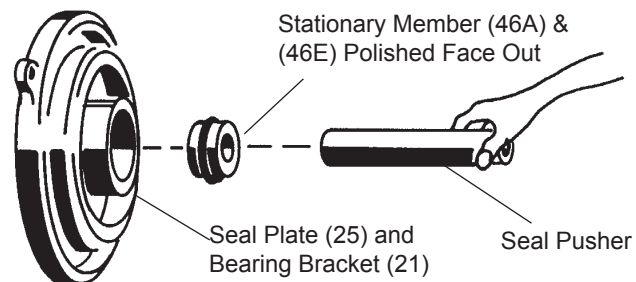

FIGURE 9
Seal - Clean and oil seal cavities in bearing bracket (21) and seal plate (25). Lightly oil (**DO NOT use grease**) outer surface of inboard stationary member (46E) and outboard stationary member (46A). Press inboard stationary member (46E) and outboard stationary member (46A) into seal plate (25), using a seal pusher (see parts list- seal tool kit), nothing but the seal pusher is to come in contact with seal face (See Figure 9).